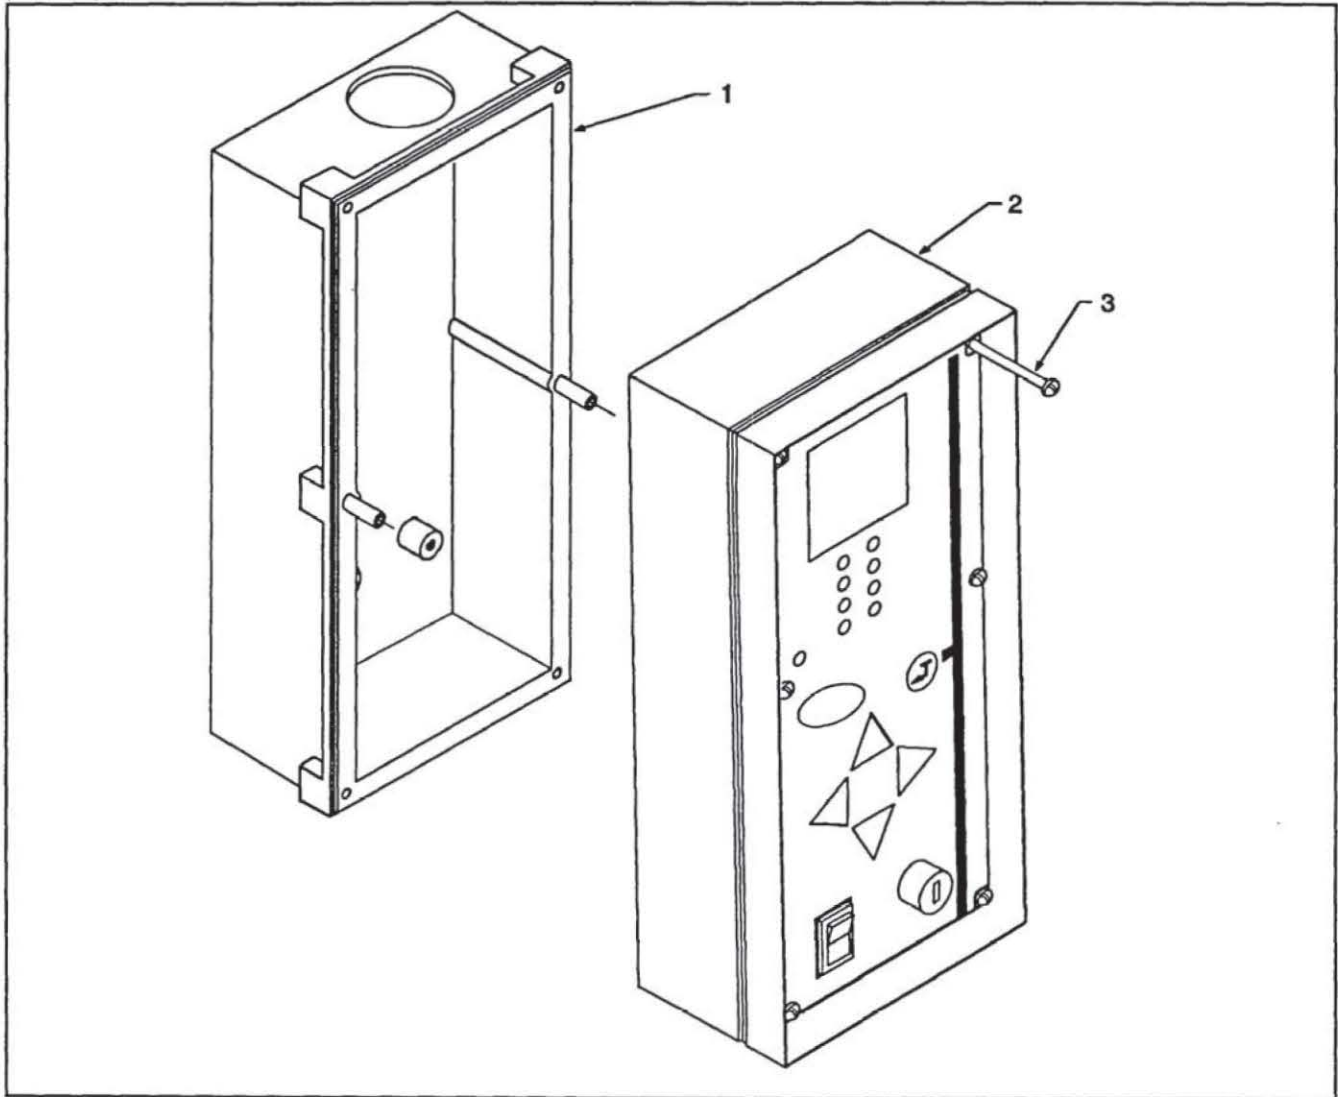

Figure 3.1 - Removing the PC40 front assembly
1. Loosen the six screws that secure the PC40 back enclosure to the front assembly (Figure 3.1).